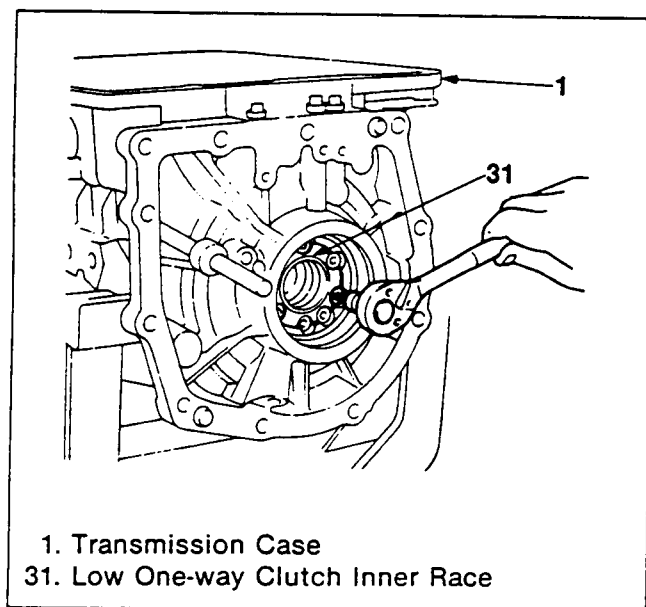

Figure 232. Low One-way Clutch Inner Race Bolt Installation
6. Install the inner race in the transmission case with new bolts and new washers (figure 232).